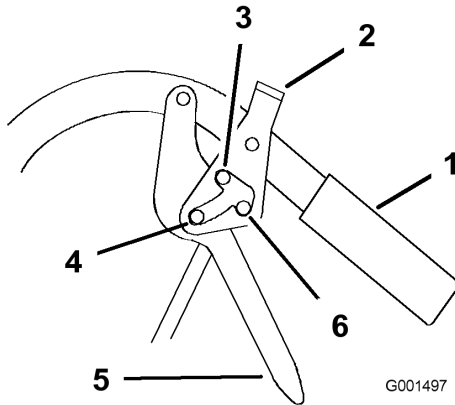

Figure 6
1. Squeeze the drive levers (Figure 6).
2. Place your thumbs on the upper part of the locks and move them forward in into the **park** position (Figure 6).
1. Squeeze the drive levers back (Figure 6).
2. Place your thumbs on the upper part of the locks and move them rearward until they are in the **drive** position (Figure 6).
2. Place your thumbs on the upper part of the locks and move them rearward into the **neutral lock** position (Figure 6).
2. Place your thumbs on the upper part of the locks and move them forward until they are in the **drive** position (Figure 6).